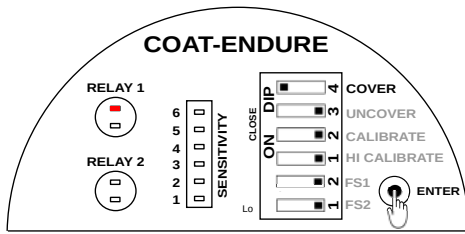

Figure 8: Setting Cover Delay
- Press ENTER and keep it pressed as shown in Figure 8. The STATUS RED LED of Relay 1 will start blinking. Count the number of blinks. After setting the value release the ENTER key.